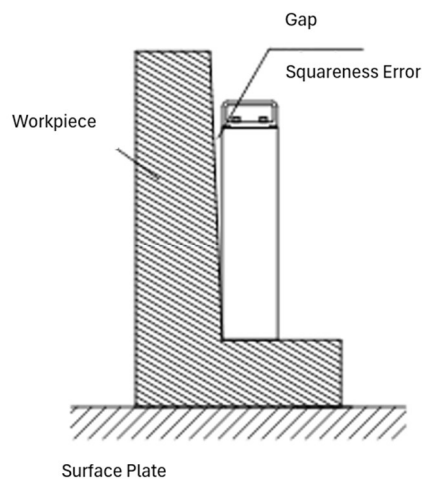
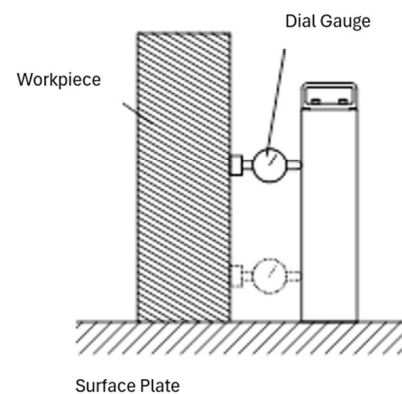

Figure 1
Figure 2
1) Measurement Using the Gap (Figure 1)
- ① Place the base of the square downward and stand it against the workpiece.
- ② Place the Precision Surface of the square against the measurement surface of the workpiece.
- ③ Visually check whether light passes between the square and the workpiece to determine the presence or absence of any gap.
2) Measurement Using a Dial Gauge (Figure 2)
- ① Place the base of the square downward and stand it beside the workpiece.
- ② Place the stand with the dial gauge attached against the workpiece.
- ③ Place the probe against the square and set the dial gauge to zero.